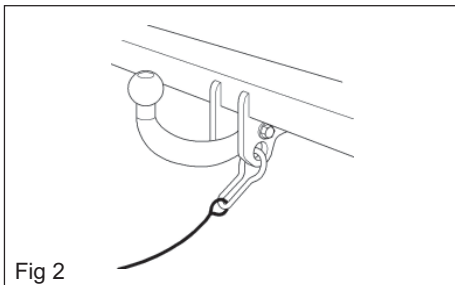

Fig 2
- b) Attach the clip directly to the designated point (Fig. 2). This alternative must be specifically permitted by the trailer manufacturer since the clip may not be sufficiently strong for use in this way.